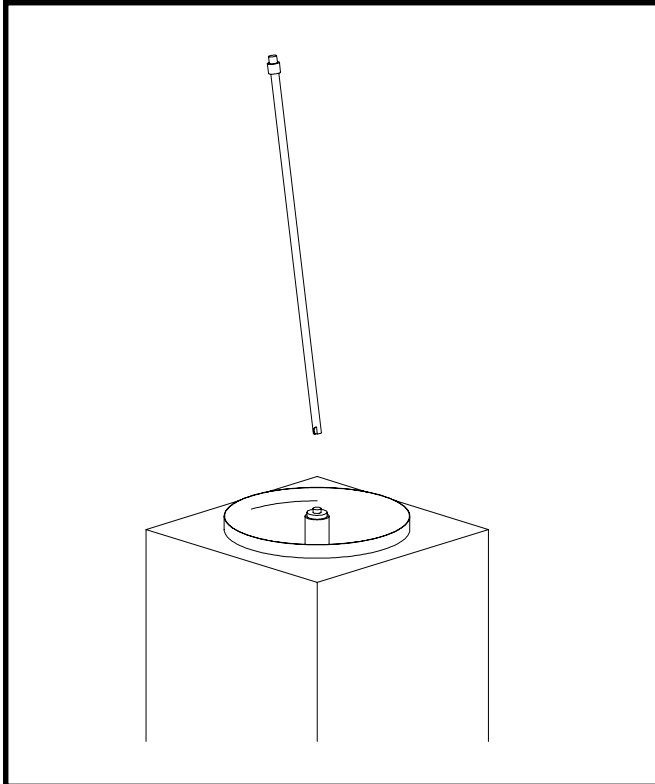

Figure 22
6. Remove the drive shaft by pulling straight up and out of the vertical center post (Fig.22).